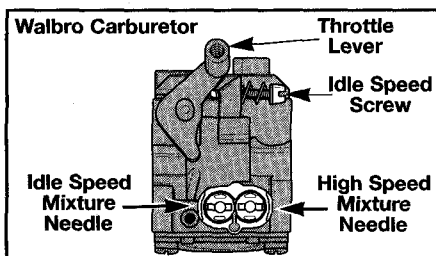

Fig. 34
- a. For Walbro carburetors: Back the idle speed screw (Fig. 34) **out, counterclockwise**, until it does not contact the carburetor throttle lever. Then turn the screw **in, clockwise**, until it just begins to move the throttle lever; then continue turning *2 full turns*.